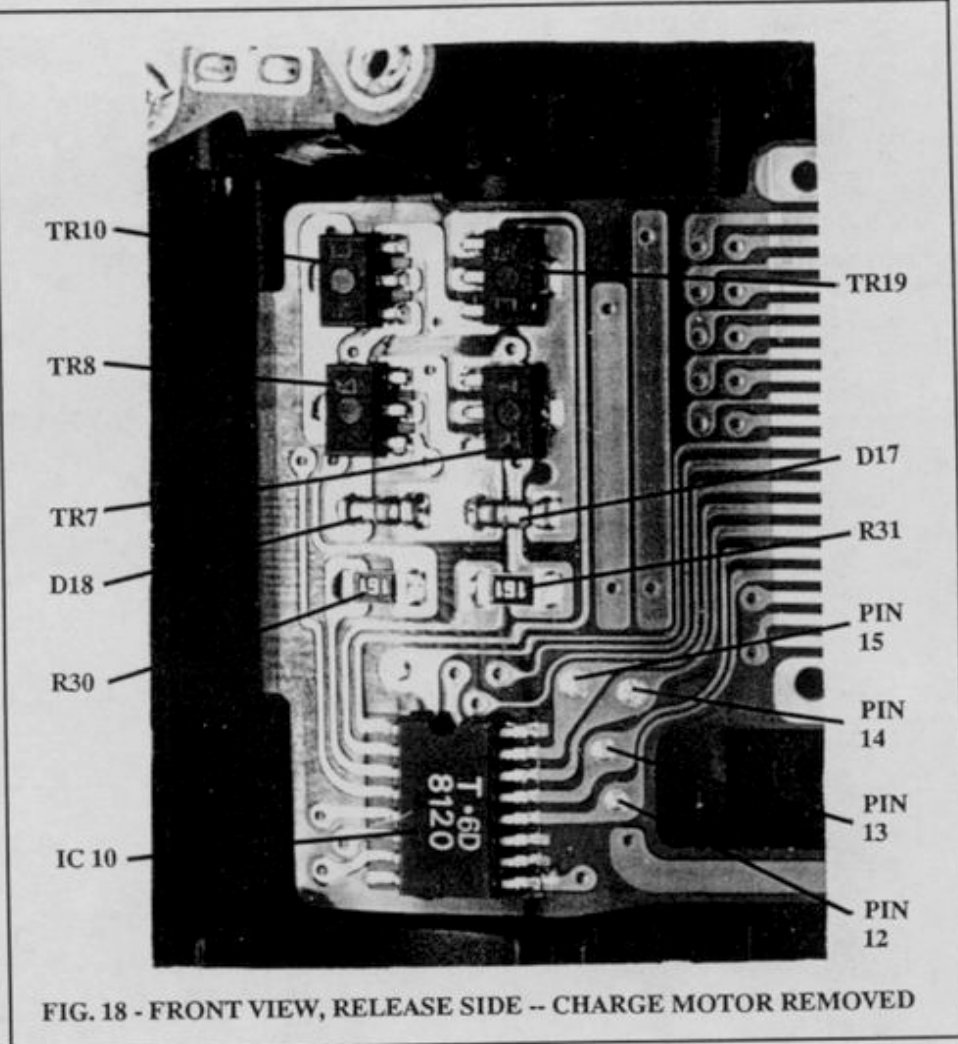

FIG. 18 - FRONT VIEW, RELEASE SIDE -- CHARGE MOTOR REMOVED
10. **IC10.** On motor flex, front of camera (section behind the charge motor, Fig. 18). Driver for charge motor M2 and wind motor M1. Controlled by sub CPU. Supplied individually or as part of the motor flex. Pin numbering is the same as IC9, Fig. 29.